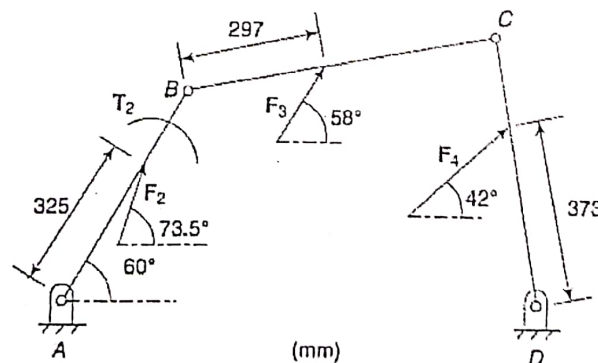

Figure 1
- vii. Draw fully labeled FBD's that would be used to solve the four-bar linkage in Figure 1 below by superposition method. *Note: Only the FBD's are required; no need to solve the problem. Your diagrams should show all the external forces and torque(s) and reactions at the bearings.*